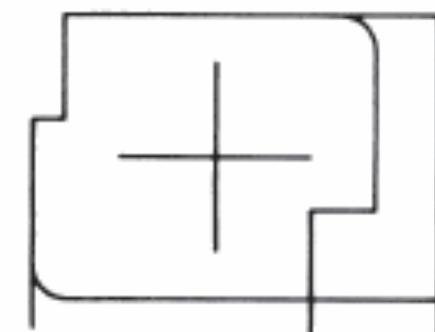

Figure 2
- If it is necessary to show the exact contour of a rolling bearing, it should be represented by the true outline of its cross-section, with the upright cross in a central position (see Figure 2). The cross shall not touch the outlines.